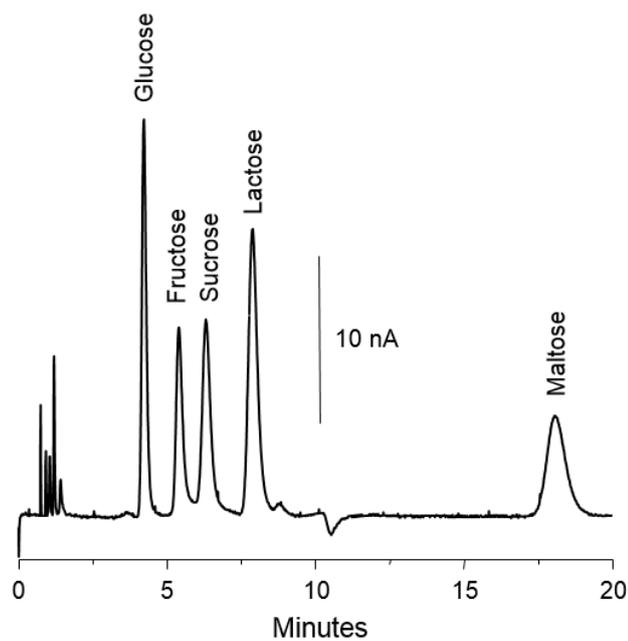

Fig. 28. Carbohydrate analysis in the pulse mode.
In pulsed amperometric detection (PAD) the working electrode (WE) is regenerated at a frequency of 0.5 - 3 Hz by the application of a series of potential changes. This is particularly useful for certain applications where the working electrode is rapidly fouled due to adsorption of insoluble reaction products. A well-known application area of PAD is the analysis of carbohydrates (Fig. 28) [1].